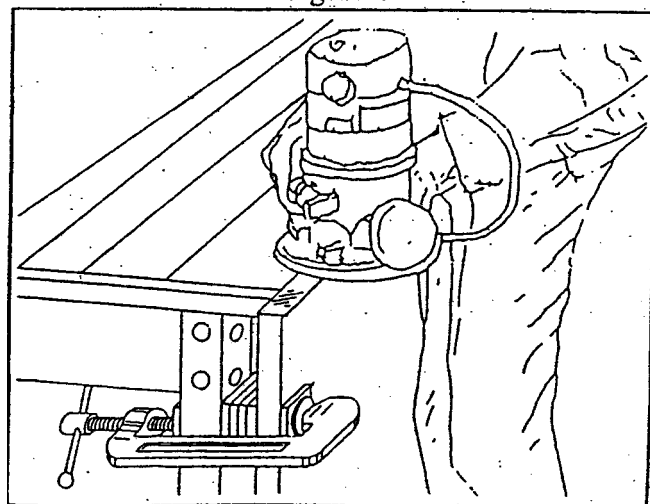

Figure 5
- Use a router bit with a 2 flute cutter head with a ball bearing guide to flush trim the strips to the edge of the substrate. If you see the particles from the router sticking together decrease the feed speed—GO Slower! Use a new bit. Relegate dull bits to woodworking. They are still really sharp! Re-mask the edges before routing if the film has come off or is wrinkled. See Figure 5.